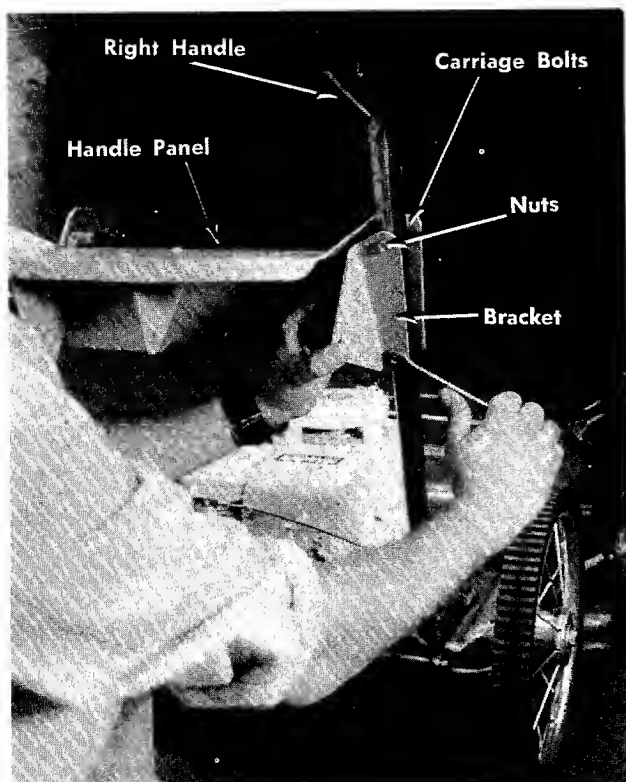

FIGURE 3
5. Assemble the handle panel and bracket to the right handle using two of the carriage bolts and nuts. See figure 3.
The bracket must be assembled with the wide side up as shown in figure 3.